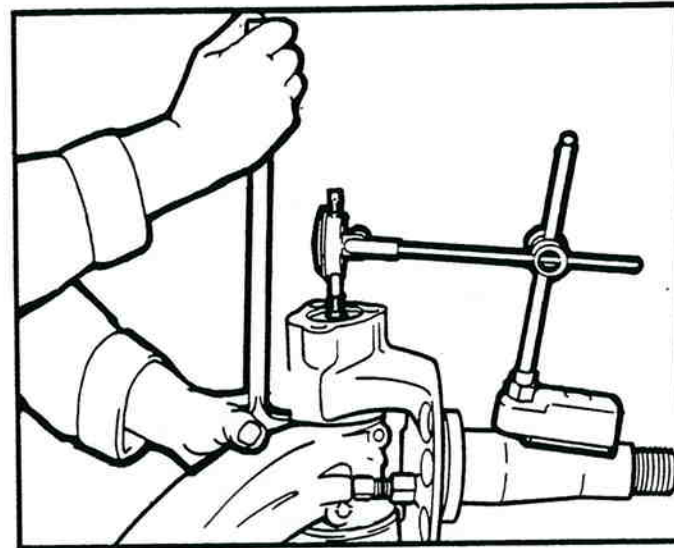

Figure 1-25. Measuring End Play.
e. Measure the knuckle clearance (end play) by using a suitable lever to lift the knuckle while observing the dial indicator. Make a note of the measurement (figure 1-25).